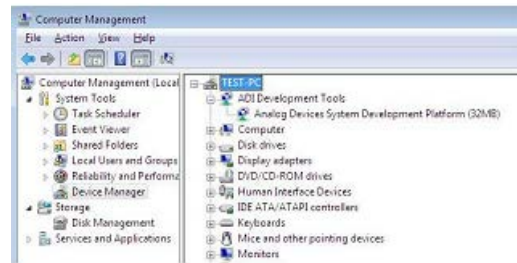

Figure 12. Checking if the Board is Connected to the PC Correctly
- c. The **Computer Management** window appears. Click **Device Manager** from the **System Tools** list (see Figure 12).